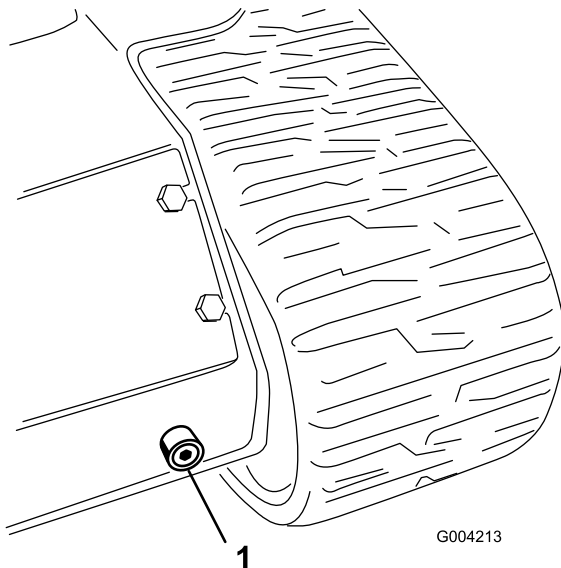

Figure 55
6. Place a large drain pan (capable of holding 15 US gallons) under the drain plug on the front of the traction unit (Figure 55).
7. Remove the drain plug and allow the oil to drain into the pan (Figure 55).